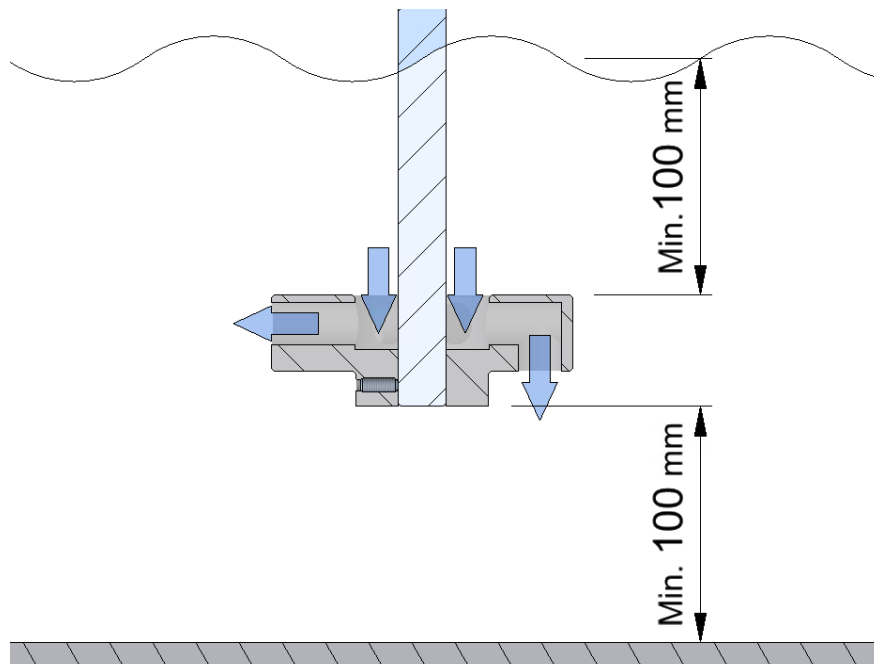
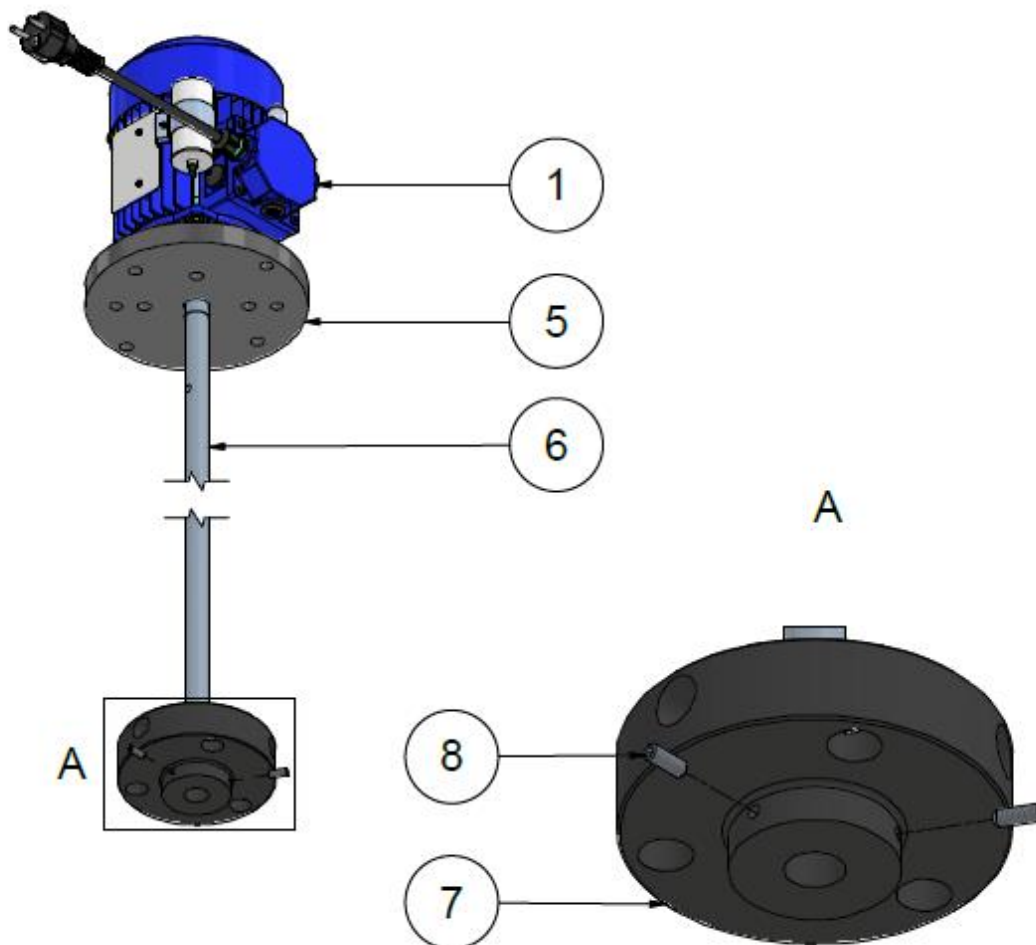

Figure 3 Position of the mixing disc
Figure 4 Assembly of the Enmix light
The rotation of the mixer shaft and the mixing disc sets the liquid in the reservoir in motion. The mixing disc takes in the liquid from above and then sends the liquid downwards and to the side via the channels in the mixing disc. In the disc there are 3 channels towards the bottom of the disc and 3 channels directly to the side of the mixing disc. This causes the liquid to move as shown in Figure 3. The standard direction of rotation of the mixing disc is clockwise (viewed from above).
the numbers between parentheses referring to the numbers and parts in Figure 4.
- Measure the depth. from the surface where the mounting plate (5) is assembled to, to the bottom of the reservoir.
- Shorten the shaft (6), if necessary, and ensure that the mixing disc (7) is as deep as possible and at least 100 mm above the bottom of the fluid reservoir.
- o The shaft (6) can be shortened using a hacksaw or cutting disc.
- Insert the shaft (6) through the opening in the mixing disc (7).
- o Please note that the suction side is facing to the top (see Figure 4).
- Fix the mixing disc (7) to the shaft (6) using two stainless steel set screws m6x16 (8).
- Attach the mounting plate (5) to the reservoir or a structure above this.
- Ensure the mixing disc rotates +/- 100 mm from the bottom of fluid reservoir (see Figure 3)
- Assemble the mixing disc following Figure 3 and Figure 4. If the assembly of the mixing disc is done in the wrong way, the fluid can be sprayed upwards. This could create dangerous situations.